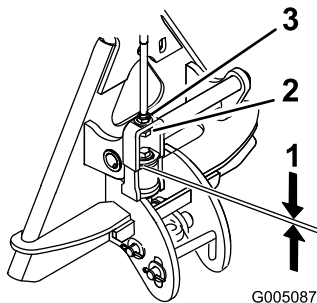

Figure 10
1. With the drag mat mounted and secured on the traction unit, measure the gap between the top washer and the spacer in the link assembly on the attachment adapter as shown in Figure 10.
The gap between the washer and the shoulder should be 1.5 mm to 2.0 mm (0.060 to 0.080 inch); refer to Figure 10.
2. If the gap is not correct, loosen the jam nut and tighten or loosen the adjustment nut on the link assembly as needed to change the gap (Figure 10).